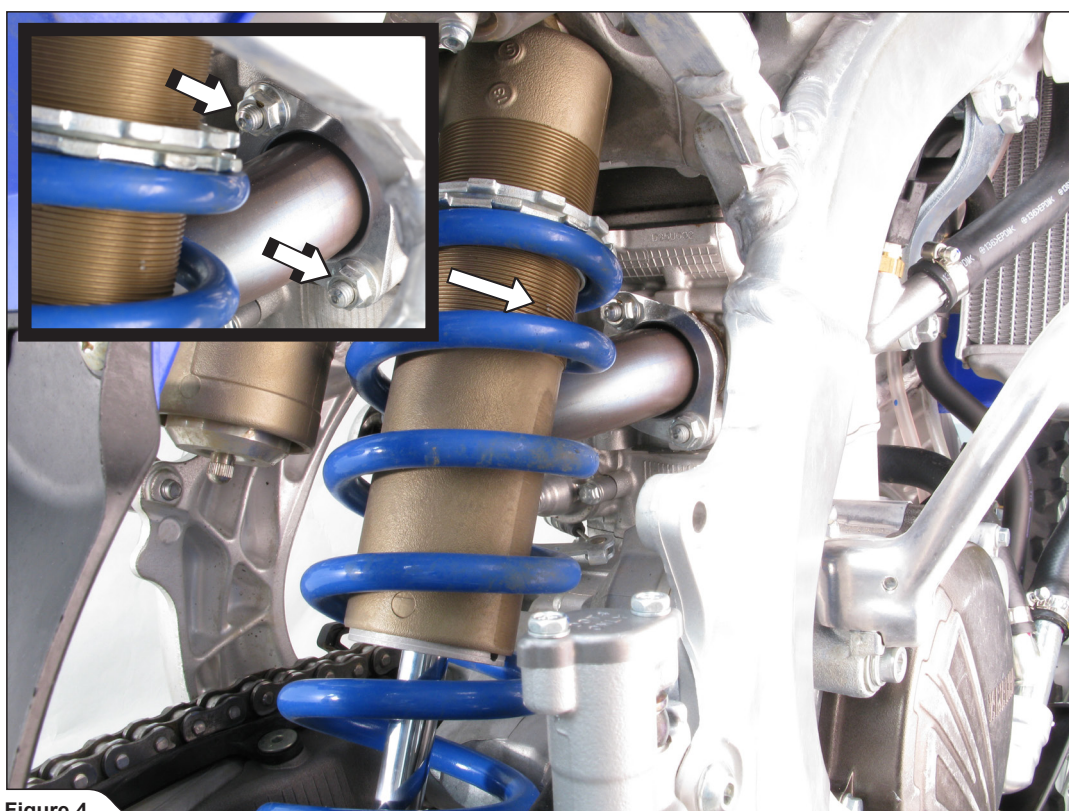

Figure 4
5. Unscrew the marked nuts and carefully remove the header pipe off the motorcycle (**Figure 4**).